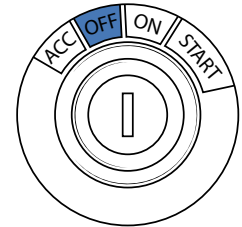

Figure 6 - Start switch
3. Turn the start switch to the "OFF" position (**Figure 6**).